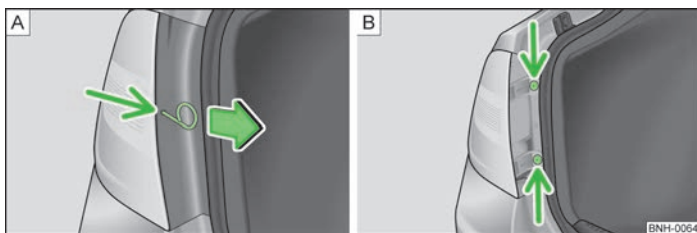

Fig. 133 Removing the cover of the lamp/removing the lamp
- Insert the clamp for removing the wheel trims » page 145, *Vehicle tool kit* into the hole indicated by the arrow » Fig. 133 - [A].
- Use the screwdriver from the tool kit » Fig. 133 - [B] to unscrew the lamp.